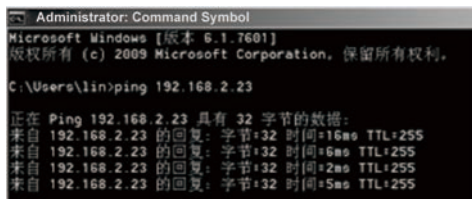

Figure 35
12. Set up complete open "CMD" window on PC, enter "ping 192.168.1.100" command to correspond with handheld reader, as Figure 35 shows the data transmitted has set up complete (Figure 35).